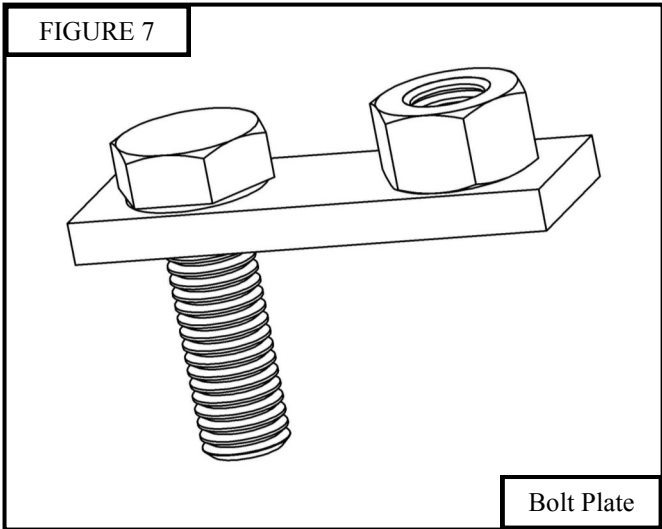
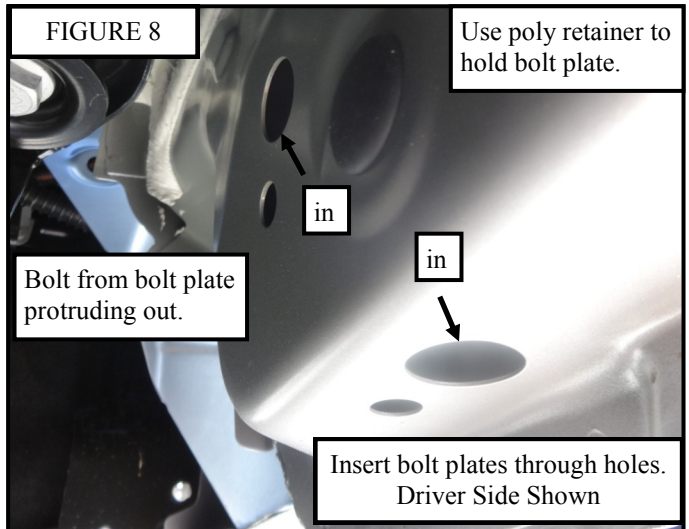
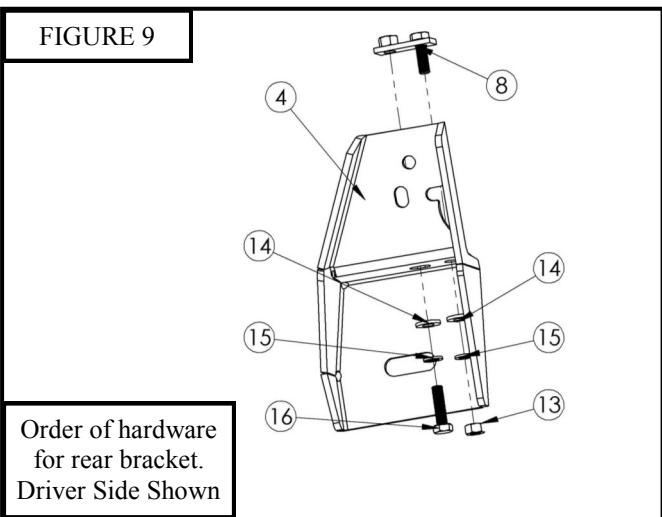

FIGURE 7
FIGURE 8
FIGURE 9
9. Loosely install Rear Mounting Bracket using supplied M8 Bolt Plates and M8 hardware. Guide M8 bolt plates through the revealed holes beneath the rubber covers on rocker panel. (Note: Crew cab model has different hole placements compared to the extended cab model.) Figure 8 shows the crew cab model hole placement. Extended cab models have the small and big hole right next to each other. Rear Mounting Bracket has a slot to accommodate difference between the two models, see figure 9. Use the poly retainers to prevent the bolt plates from falling into the rocker panel. See Rear Assembly, Figure 7, 8, and 9.